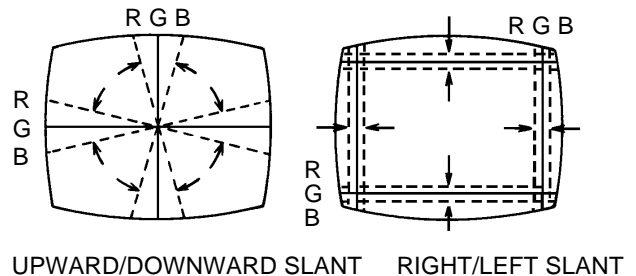

Fig. 3-2-a
2. Insert three wedges between the deflection yoke and CRT funnel to fix the deflection yoke. **(Refer to Fig. 3-2-b)**